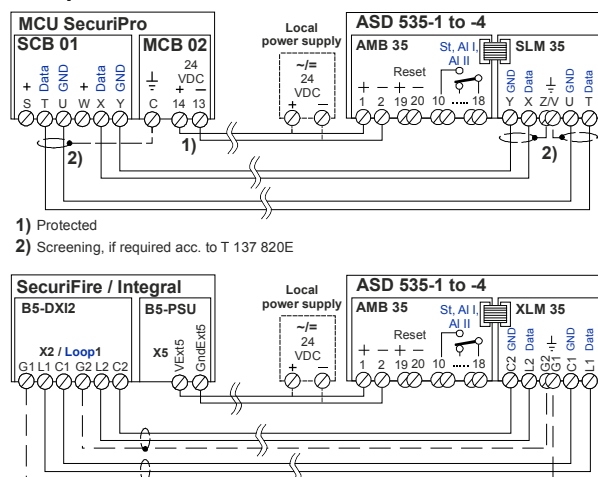

Fig. 25 Wiring from XLM 35 / SLM 35
- The circuitry and wiring routing between **SLM 35** and the FACP SecuriPro, SecuriFire or Integral must be carried out as shown in **Fig. 25** (X on X, Y on Y or X on L2, Y on C2, etc.).
- The circuitry and wiring routing between **XLM 35** and the FACP SecuriFire or Integral must be carried out as shown in **Fig. 25** (L1 on L1, C1 on C1, etc.).